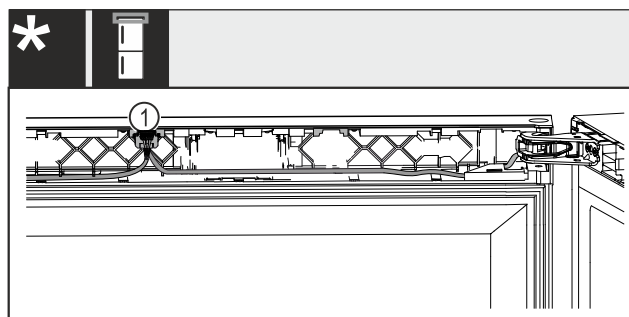

Fig. 64 Wine-freezer combinations*
- Snap the plug Fig. 64 (1) into the guide.*